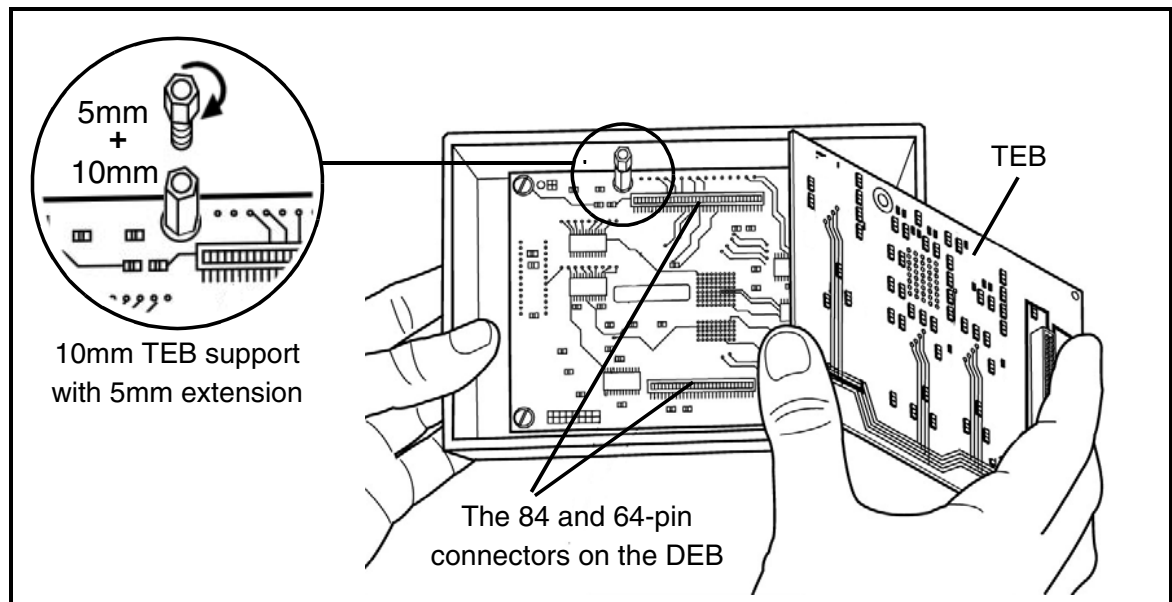

Figure 11: DEB and TEB connectors
The board under the TEB – the Dedicated Emulation Board (DEB), should now be visible (see Figure 11).
- 4 Identify the top and bottom faces of the TEB you wish to install. The bottom face is distinguished by the presence of two or more flex cable connectors placed side by side. The top face is distinguishable by two DEB connectors along the long edges of the TEB. There is one 84-pin connector and one 64-pin connector, which match the DEB connectors shown in Figure 11
- 5 Install the replacement TEB in the EMU3 probe by inserting the male 84-pin/64-pin connectors into the TEB's female 84-pin/64-pin connectors (refer to Figure 11). Because the connectors are asymmetric, there is only one possible connection scheme.
Note: For some TEBs, the microcontroller is mounted on a support and not soldered directly to the board. In this case the TEB's 84-pin and 64-pin connectors have an additional height of 5mm to allow enough room for the microcontroller. To compensate you will need to add a 5mm extension to the 10mm support on the DEB, as shown in Figure 11 on page 22. The 5mm extensions are provided with your TEB and screw into the 10mm supports. However, remember that if you install a TEB with surface mounted microcontroller later, you will have to remove the 5mm extensions.